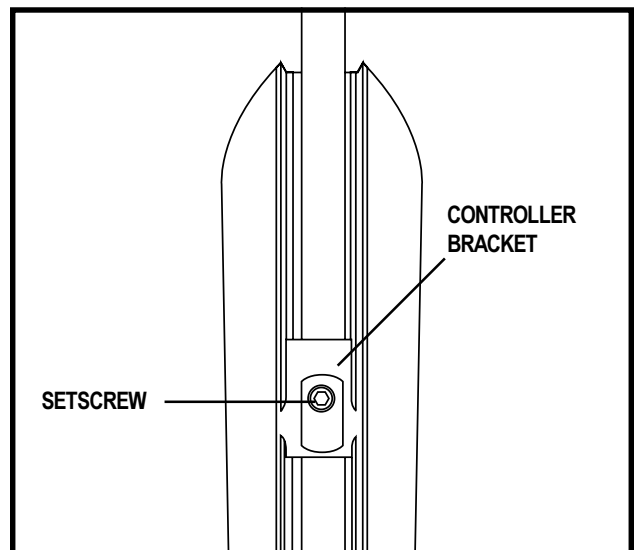

Figure 21. Controller Extension
2. Loosen the setscrew on the controller bracket. See figure 21.
4. Flip up the armrest and loosen the setscrew. See figure 21.